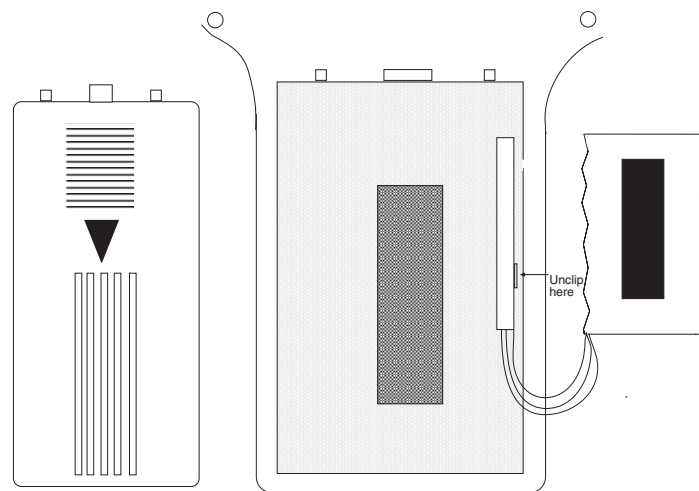

Figure 2 Replacing the Battery Pack
- 1) Push down on the battery cover on the back panel, in the direction indicated by the arrow, to remove the battery cover. Refer to Figure 2.
- 3) Unclip the battery pack, as indicated on Figure 2.